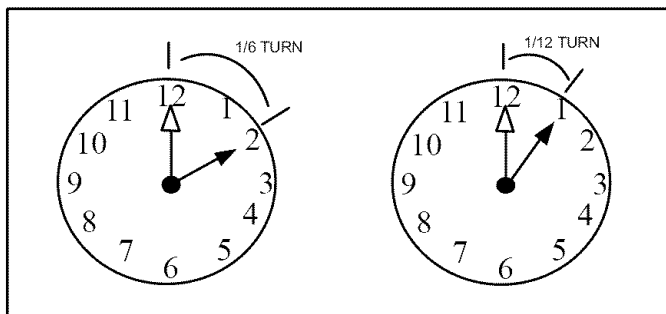

Figure 2. Cap Tightening Distances
- *Without Torque Wrench:* Finger tighten and use an appropriately sized wrench to turn an additional 1/6 turn clockwise as illustrated in figure 2.
- *Without Torque Wrench:* Finger tighten and use an appropriately sized wrench to turn an additional 1/12 turn clockwise as illustrated in figure 2.